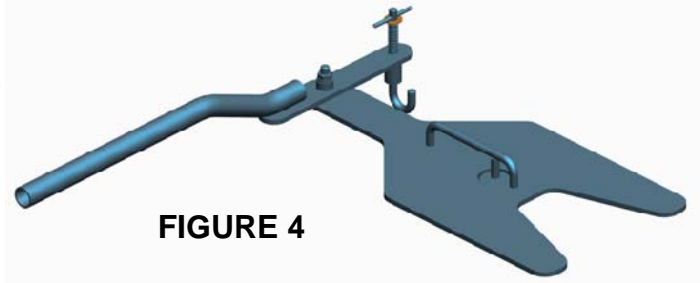

FIGURE 4
Step 1-6) Check for proper operation by using a lock tester (shown in figure 4). Lock and unlock the fifth wheel several times.